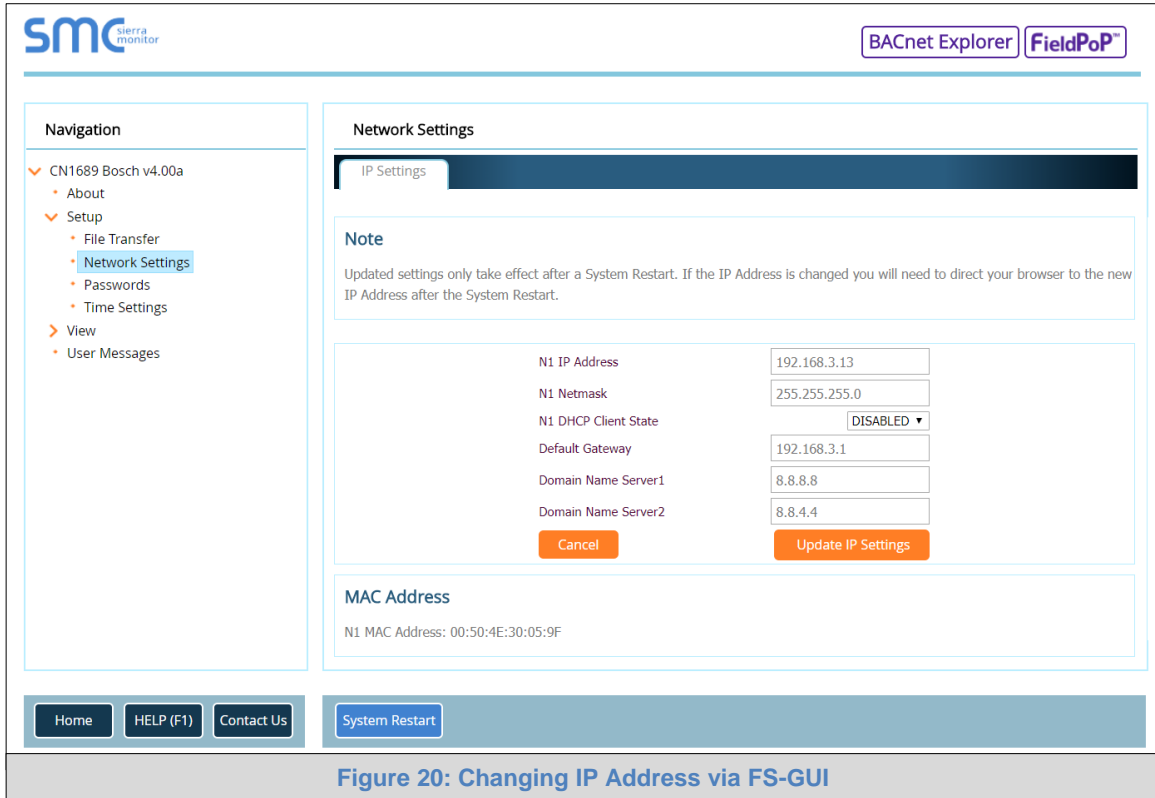

Figure 20: Changing IP Address via FS-GUI
- From the FS-GUI landing page, click on “Setup” to expand the navigation tree. Then select “Network Settings” to access the IP Settings menu. (Figure 20)
**NOTE:** The FieldPoP™ button (see Figure 20) allows users to connect to the SMC Cloud, Sierra Monitor’s device cloud solution for IIoT. The SMC Cloud enables secure remote connection to field devices through a FieldServer and its local applications for configuration, management, maintenance. For more information about the SMC Cloud, refer to the SMC Cloud Start-up Guide.